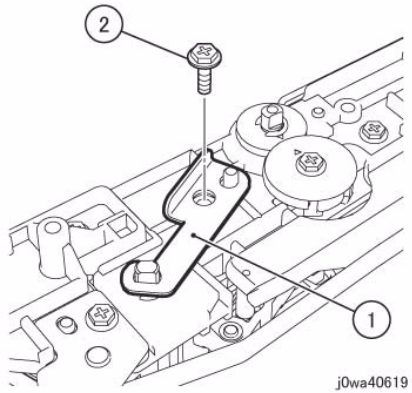

Figure 2 Switch the Tension Plate
7. Switch the Tension Plate that was removed in Step 4. (Figure 2)